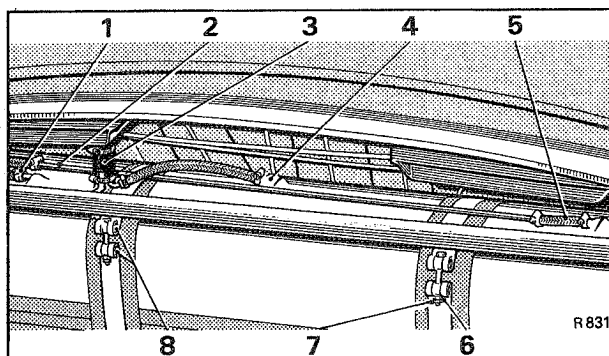

Fig. K9 Fuel tank vent connections
9. Unscrew the worm drive clips securing the three rubber vent hoses to their respective connections on the fuel tank (see Fig. K9); withdraw the hoses.
12. Unlock and unscrew the half-nut from each of the two tank retaining strap bolts (see Fig. K9).
13. Unscrew the full nut from each of the two tank retaining strap bolts (see Fig. K9).
15. Fit the two 8,0 mm. ($\frac{5}{16}$ in.) internal diameter rubber hoses of the fuel intake assembly to the fuel tank vents. One hose connects directly to the vent; the second hose connects to the vent on the other side of the fuel tank via a metal pipe which is fitted across the top of the tank (see Fig. K9).
16. Fit the open end of the 4,8 mm. ($\frac{3}{16}$ in.) diameter hose referred to in Operation 5 to the top of the rollover valve assembly. Fit an 8,0 mm. ($\frac{5}{16}$ in.) internal diameter hose between the centre vent in the top of the fuel tank and the bottom connection of the rollover valve (see Fig. K9).